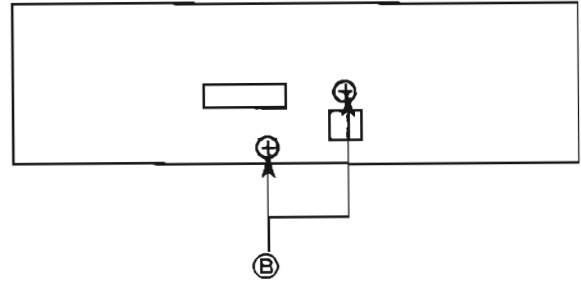

Fig.2
- (1) The level of RF output (EFM output: amplitude of eye pattern) will be low.
- (2) The drive current required by the laser diode will be increased. In such a case, check the life of the laser diode following the flowchart below.
### (3) Measurement of laser diode drive current (Fig.2)
(Fig.2)